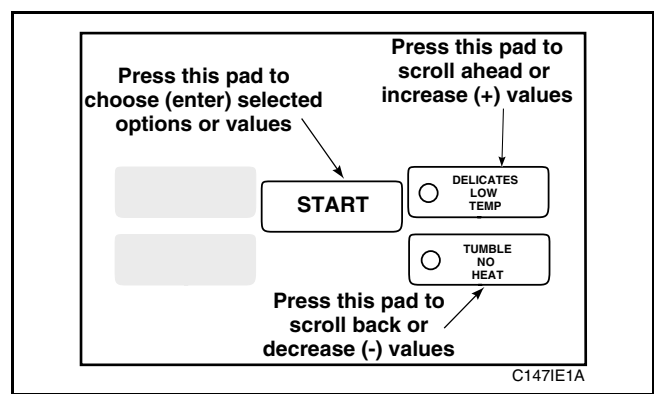

Figure 24
- Press the LOW TEMP (+) pad or the NO HEAT (-) pad to increase or decrease the current number of coins displayed in the VFD to the desired number of coins, *Figure 24*.